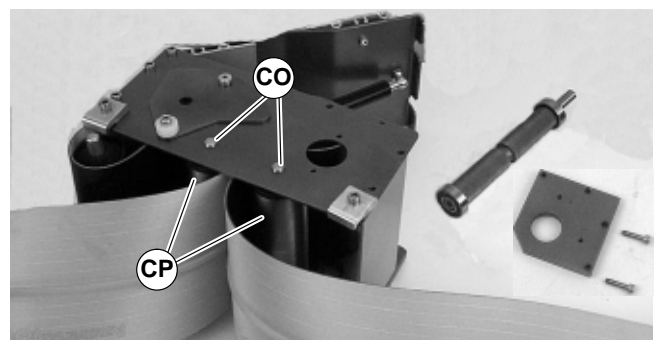

Figure 38
- For 127 mm or wider conveyor, depress both sides of each spring-loaded shaft (CO of Figure 38). Remove pulleys (CP).